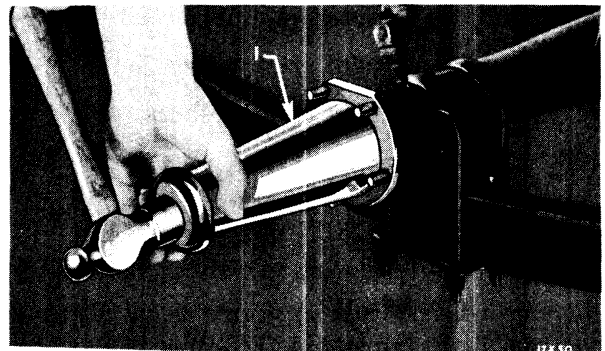

Fig. 12—Installing Axle Drive Shaft Bearing Cup (Tool C-413)
- (5) Install the axle drive shaft outer bearing cup with special driver Tool C-413 (Fig. 12).
- (6) Install shims in same manner as removed to maintain the central position of axle shaft thrust block.